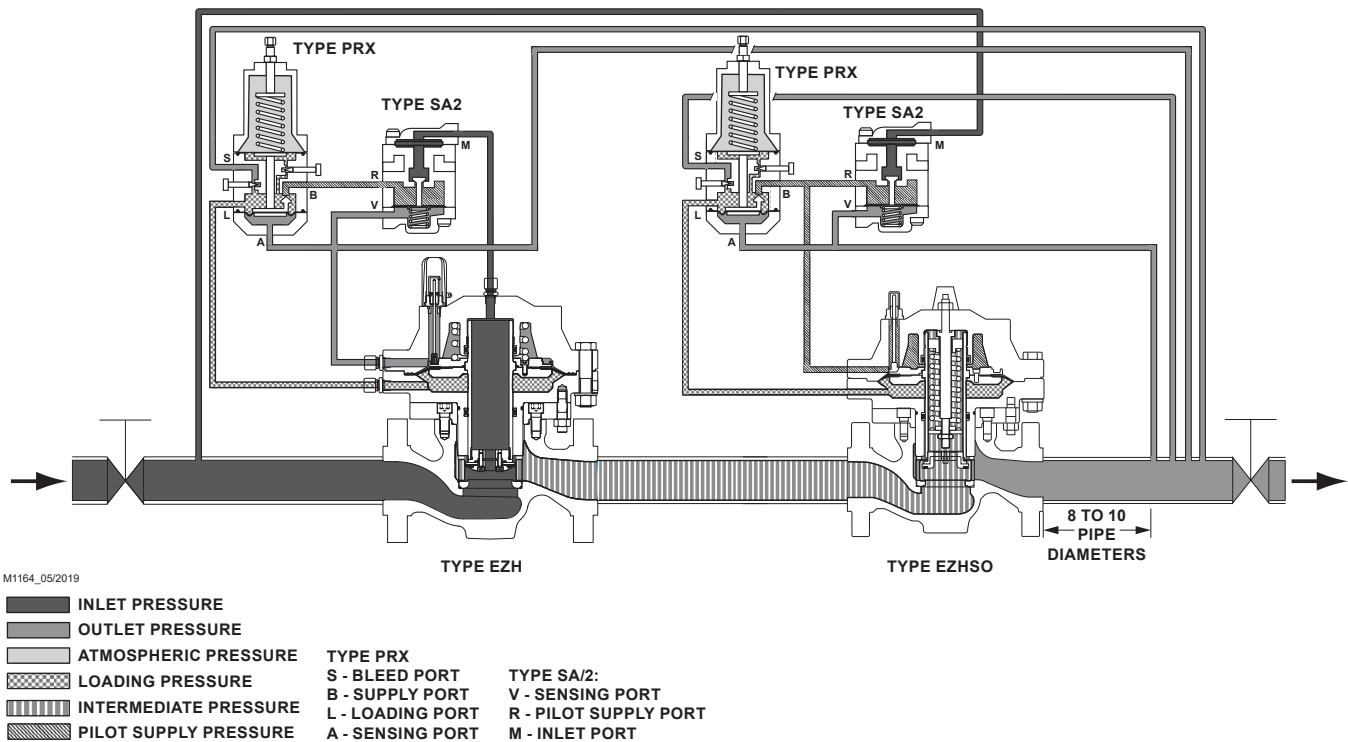

Figure 5. Wide-Open Monitoring System Operational Schematics
Wide-Open Monitoring System (Figure 5)
Figure 5 shows an upstream wide-open monitor Type EZH (failed-close) and a downstream active regulator Type EZHSO (failed-open). In this installation, if the Type EZHSO regulator no longer controls downstream pressure, it will remain open, causing the Type EZH monitor regulator to take control of the downstream pressure. Should the Type EZH fail, the monitor regulator will go closed and protect the downstream system from an overpressure condition.
- Follow the procedures in the All Installations section and then continue with step 2 of this section. The sense and bleed control lines of both the upstream and downstream pilots will be connected to the downstream piping (see Figure 5).
For a wide-open downstream monitor installation (Figure 5), adjust the upstream working pilot until intermediate pressure is higher than the desired setpoint of the monitor pilot. Adjust the downstream monitoring pilot to the desired monitoring takeover pressure. Reduce the upstream pilot to the normal outlet pressure setting.
For a wide-open upstream monitor installation (Figure 5), adjust the downstream working pilot to a setpoint higher than the setpoint of the monitor pilot. Adjust the upstream monitoring pilot to the desired monitoring takeover pressure. Reduce the downstream pilot to the normal outlet pressure setting.